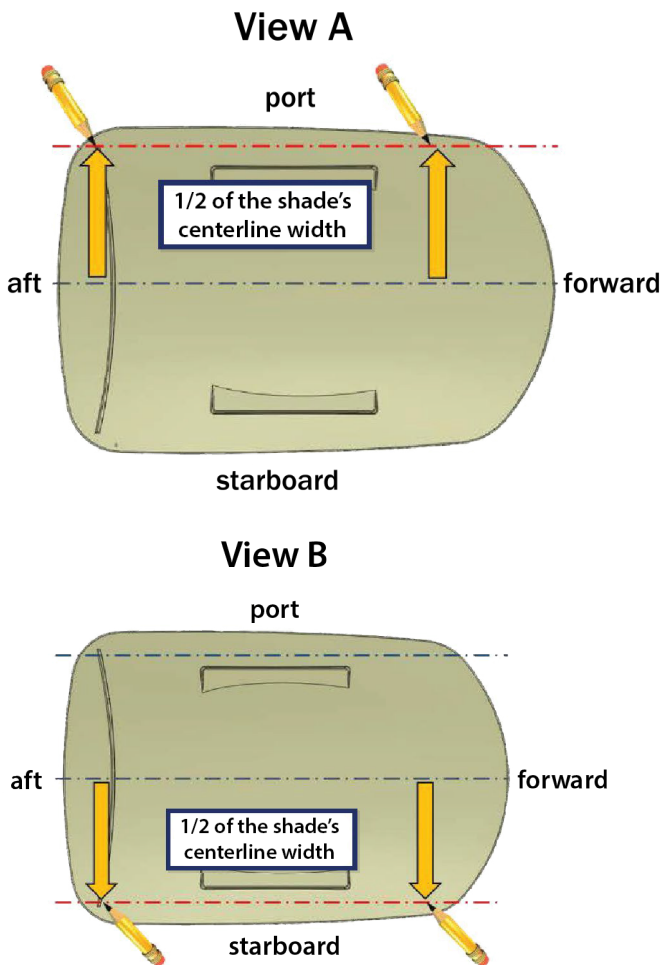

Fig.3
**B.** Take 1/2 of the width of the shade specification drawing dimension and measure out from the hardtop centerline to the port side by that amount (Fig.3, VIEW A).
**NOTE:** For example, if the shade centerline width is 2000mm, measure 1000mm from the hardtop centerline to the port or starboard side (Fig.3, VIEWS A and B).